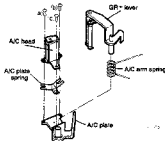

Fig. 3-9-3
- ⑤ Pull the GR-lever roller and A/C arm spring off the A/C plate as shown in Fig. 3-9-3.
- ⑥ Remove screws ①, ② and ③. Remove the A/C head and A/C plate spring from the A/C plate.
- ⑦ Desolder the lead wires at the A/C head.